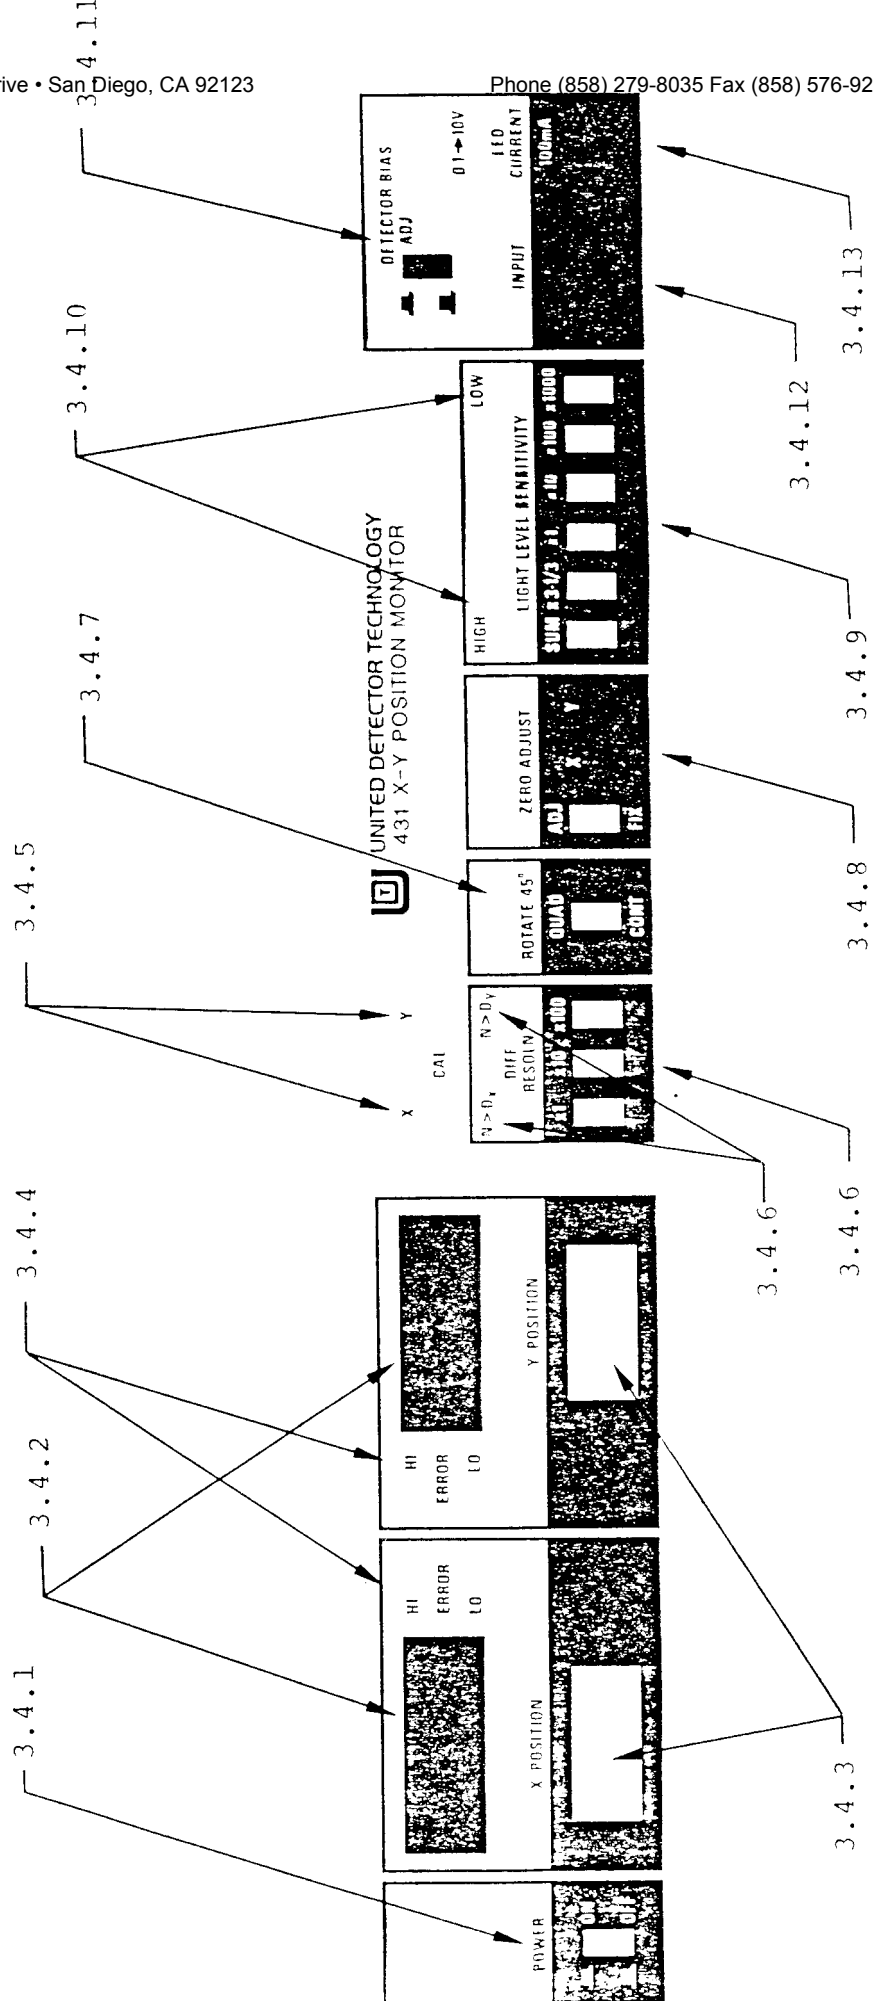

FIGURE 3.4 FRONT PANEL CONTROLS
3.4 Front Panel Controls, Adjustments, Indicators and Connectors Indicators and Connectors (See Figure 3.4)